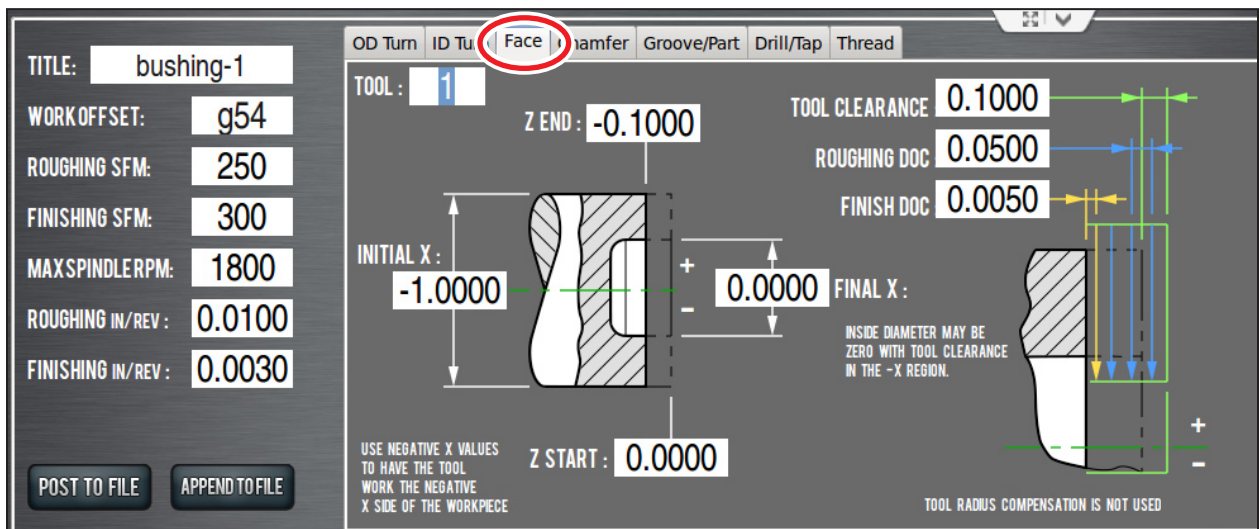

Figure 4.16
To write the code for the first operation, click the *Conversational* tab to bring up the conversational screens. The conversational screens are divided into two sections: parameters common to most operations are displayed on the left and parameters (including part geometry) that are operation-specific are displayed on the right. Click the *Face* tab to bring up the facing screen (see **Figure 4.16**).
Use the facing screen (**Figure 4.16**) to generate code to face the part back to Z of -0.100". The entry fields should be self-explanatory and are covered in detail in following chapters. For now, enter the values shown in **Figure 4.16**. Make note of a few things:
- The feed rates (roughing and finishing) are shown in inch/rev, not in inch/min. Like constant surface speed, programming in inch/rev allows for optimal tooling performance. After entering the values in **Figure 4.16**, click *Post to File* on the *Face* tab to save the G-code (see **Figure 4.17**).